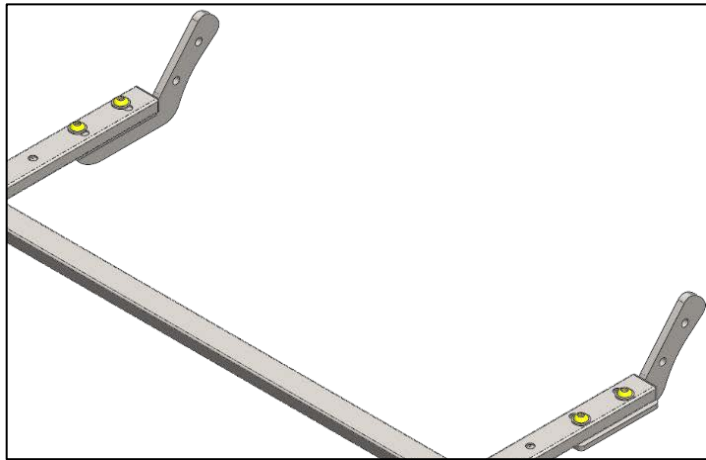

Fig.1
- Loosen the 4 bolts (highlighted in Fig.1) at the back of the drip tray frame.
- Tighten the bolts that were loosened on the frame earlier (shown in Fig.1).